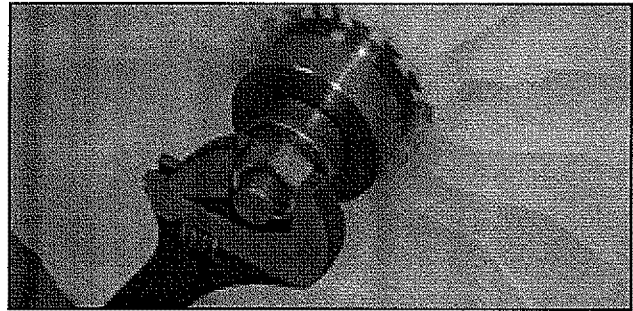

FIGURE 14
21. Tighten Bottom Press Nut until bearings bottom out. Then back the Bottom Press Nut off and remove. See *Figure 14*.